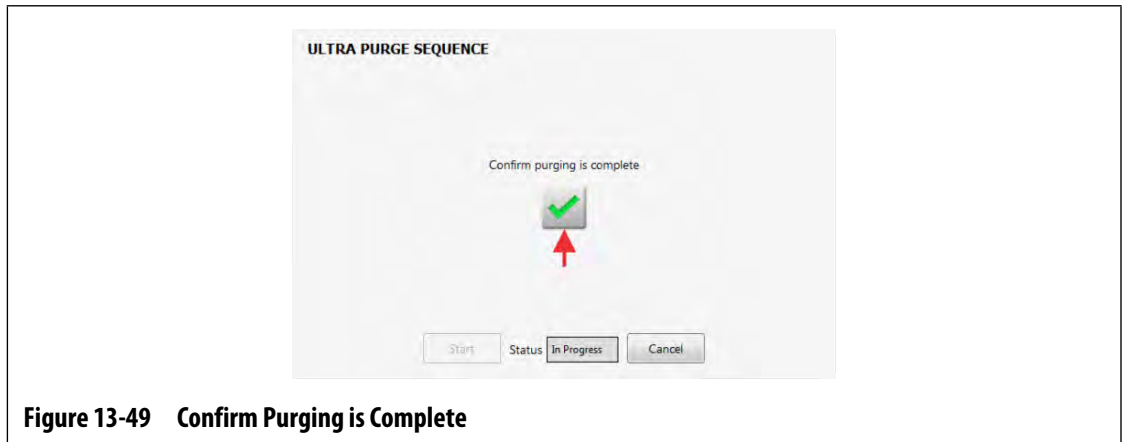

Figure 13-49 Confirm Purging is Complete
- Touch the green check mark button to confirm that the purging has completed (Figure 13-49).